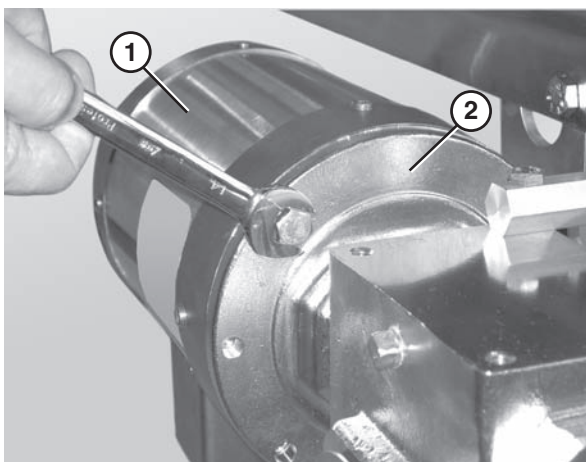

Figure 60
2. Remove the bolts that connect the motor to the drive assembly (**Figure 60**).
3. Remove the motor (**Figure 60, item 1**) from the drive assembly (**Figure 60, item 2**).